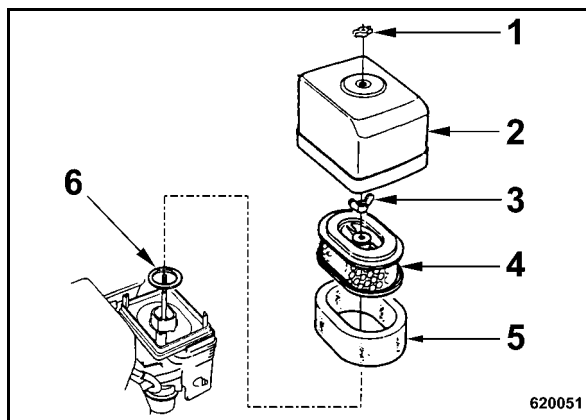

Fig. 59
- Unscrew wing nut (1) (Fig. 59) and remove the housing cover (2).
- Unscrew wing nut (3) and take off paper element (4) with the foam rubber insert (5).
- Check the rubber seal (6), replace if necessary.